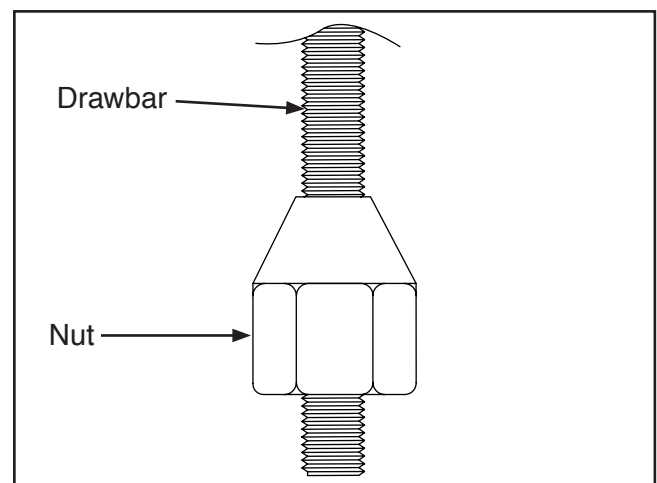

Figure 16. Nut threaded onto drawbar.
4. Thread the drawbar nut, tapered side up, onto the bottom of the drawbar until it stops below the spindle housing cartridge (see **Figure 16**).